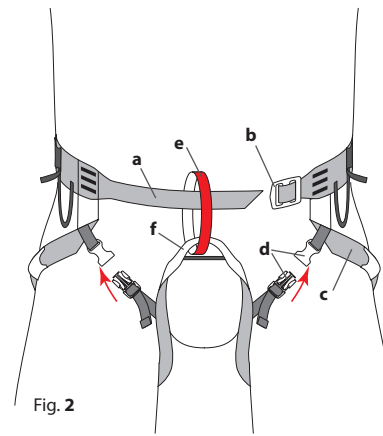
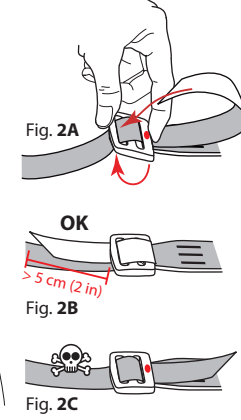
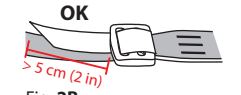
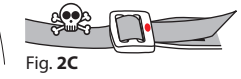

Fig. 2
Fig. 2A
Fig. 2B
Fig. 2C
3. First pass the waist belt (a) through the belay loop (e) (Figure 2), then through both holes on the safety buckle (b) (see figure 2A), pull until snug, and then double the webbing back into the first hole (see figure 2B). To facilitate threading the webbing back, twist the buckle as indicated on Figure 2A. **WARNING! Failure to secure the buckle correctly will result in severe injury or death!** (Figure 2C)
5. Secure the leg release buckle (d) on each of your legs and adjust them for comfort (Figure 2). Leg loops should fit snugly but should not constrain your movements. Double check that the webbing is not twisted.
3. Premièrement passer la ceinture (a) à travers l'anneau d'assurage (e), puis à travers les deux fentes de la boucle (b) (voir le schéma 2A). Serrez tout en restant confortable, puis repasser la sangle dans le premier tour de la boucle métallique (figure 2B). Pour plus de facilité,